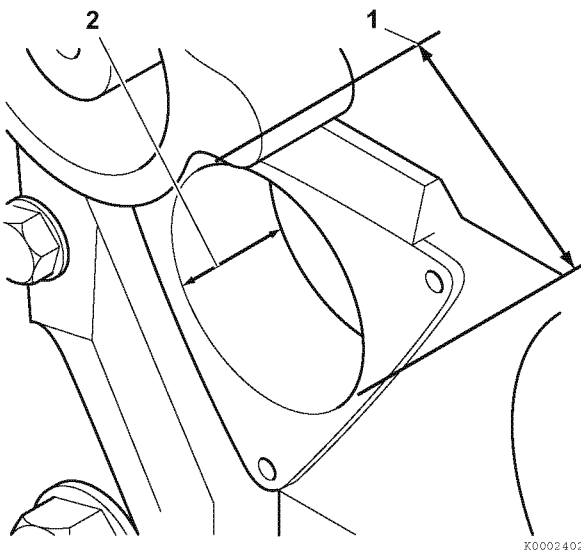

Figure 6-76
10. Measure the cavity inside diameter (1, **Figure 6-76**). Measure in at least two directions 90° apart. Record the measurements.
11. Measure the cavity depth (2, **Figure 6-76**) using a depth micrometer. Record the measurement.